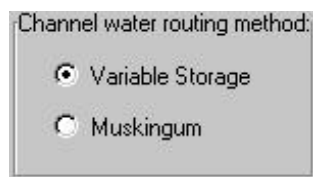

Figure 13.10
- f. Channel water routing method. In this section, the user selects the method used to route water in the channel network. Two options are available, the **Variable storage** and **Muskingum** methods (Figure 13.10). To select an option, click the radio button adjacent to the option.